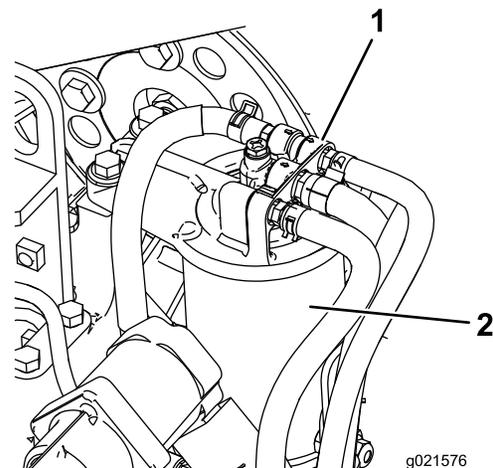

Figure 38
1. Clean the area around the fuel filter head (Figure 38).
2. Remove the filter and clean the filter head mounting surface (Figure 38).